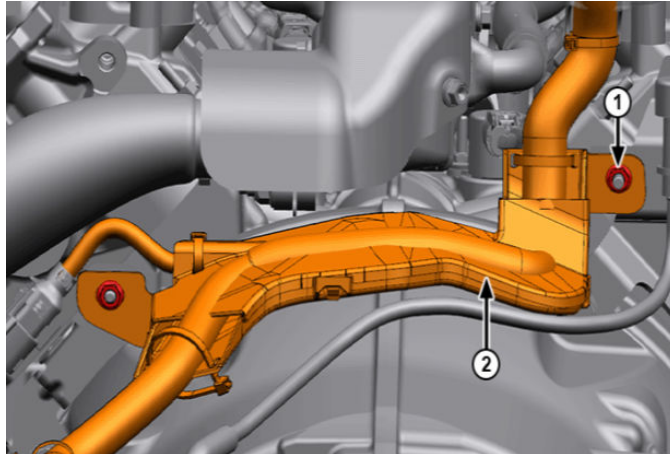

**Fig. 1**
3. Disconnect the fuel line, vapor tube connections and the wire harness retainers Fig. 1.
26. Connect the fuel line connection, vapor tube connection and the wire harness retainers Fig. 1.